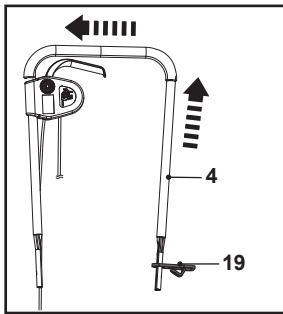

Fig. 2
1. Guide the cord retainer (19) onto the upper handle bar (4) and slide it all the way until stop (Fig. 2).